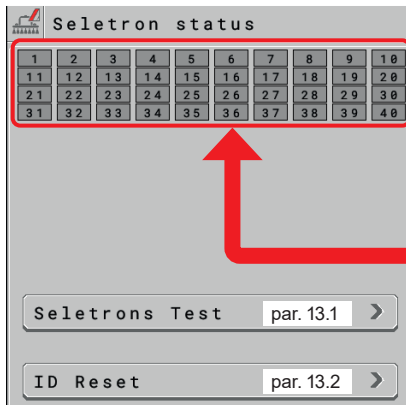

Fig. 120
• Make sure that ALL SELETRON DEVICES ARE DISCONNECTED: they must be shown on the display only with the symbols , as shown in Fig. 120.